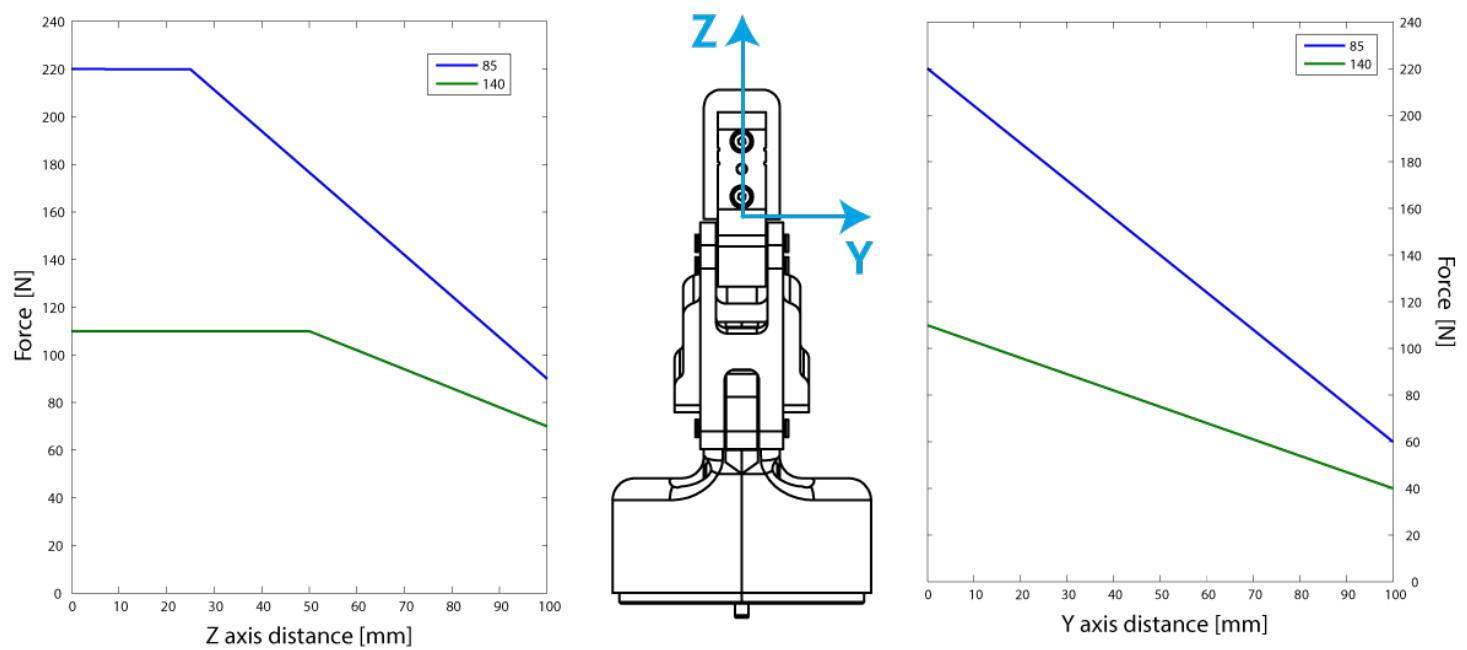

Figure 6.2.2 : Grip force in the Y and Z axis for the 2-Finger 85 and 2-Finger 140.
The user of the Gripper must always ensure that the result of the forces against the finger is always lower than the maximum holding Force as seen in figure 6.2.2.
- d is the distance between the bottom of the finger pads and the equilibrium line as seen on the Z axis in figure 6.2.2.
* Moments in x and y are calculated from the base of the finger tips as shown in figure 6.2.2